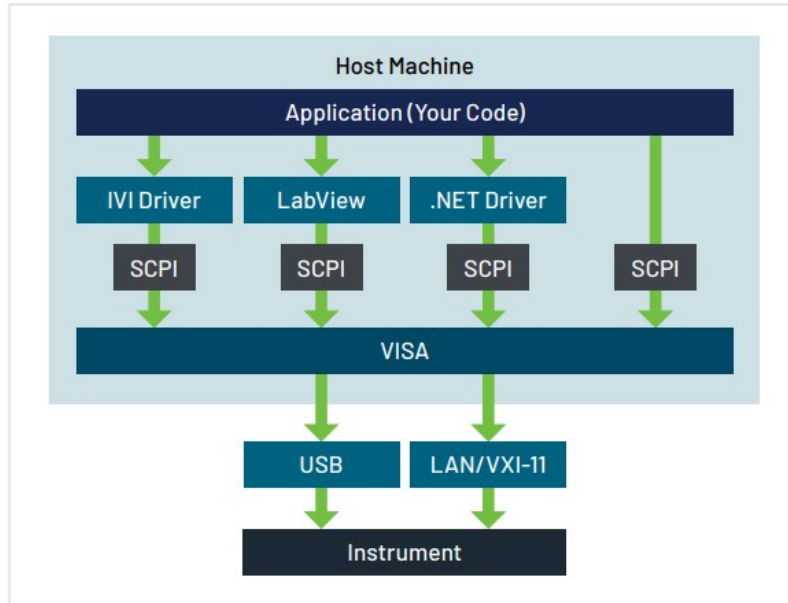

Figure 1. The programmatic interface (PI) stack shows the flow of information between a host controller and instrument.
A programmatic interface (PI) is a boundary or set of boundaries between two computing systems that can be programmed to execute specific behaviors. For our purposes, it's the bridge between the computer that runs every piece of Tektronix test equipment, and the application written by an end user. To narrow this even further, it is a set of commands that can be sent remotely to an instrument which then processes those commands and executes a corresponding task. The PI Stack (Figure 1) shows the flow of information from the host controller down to the